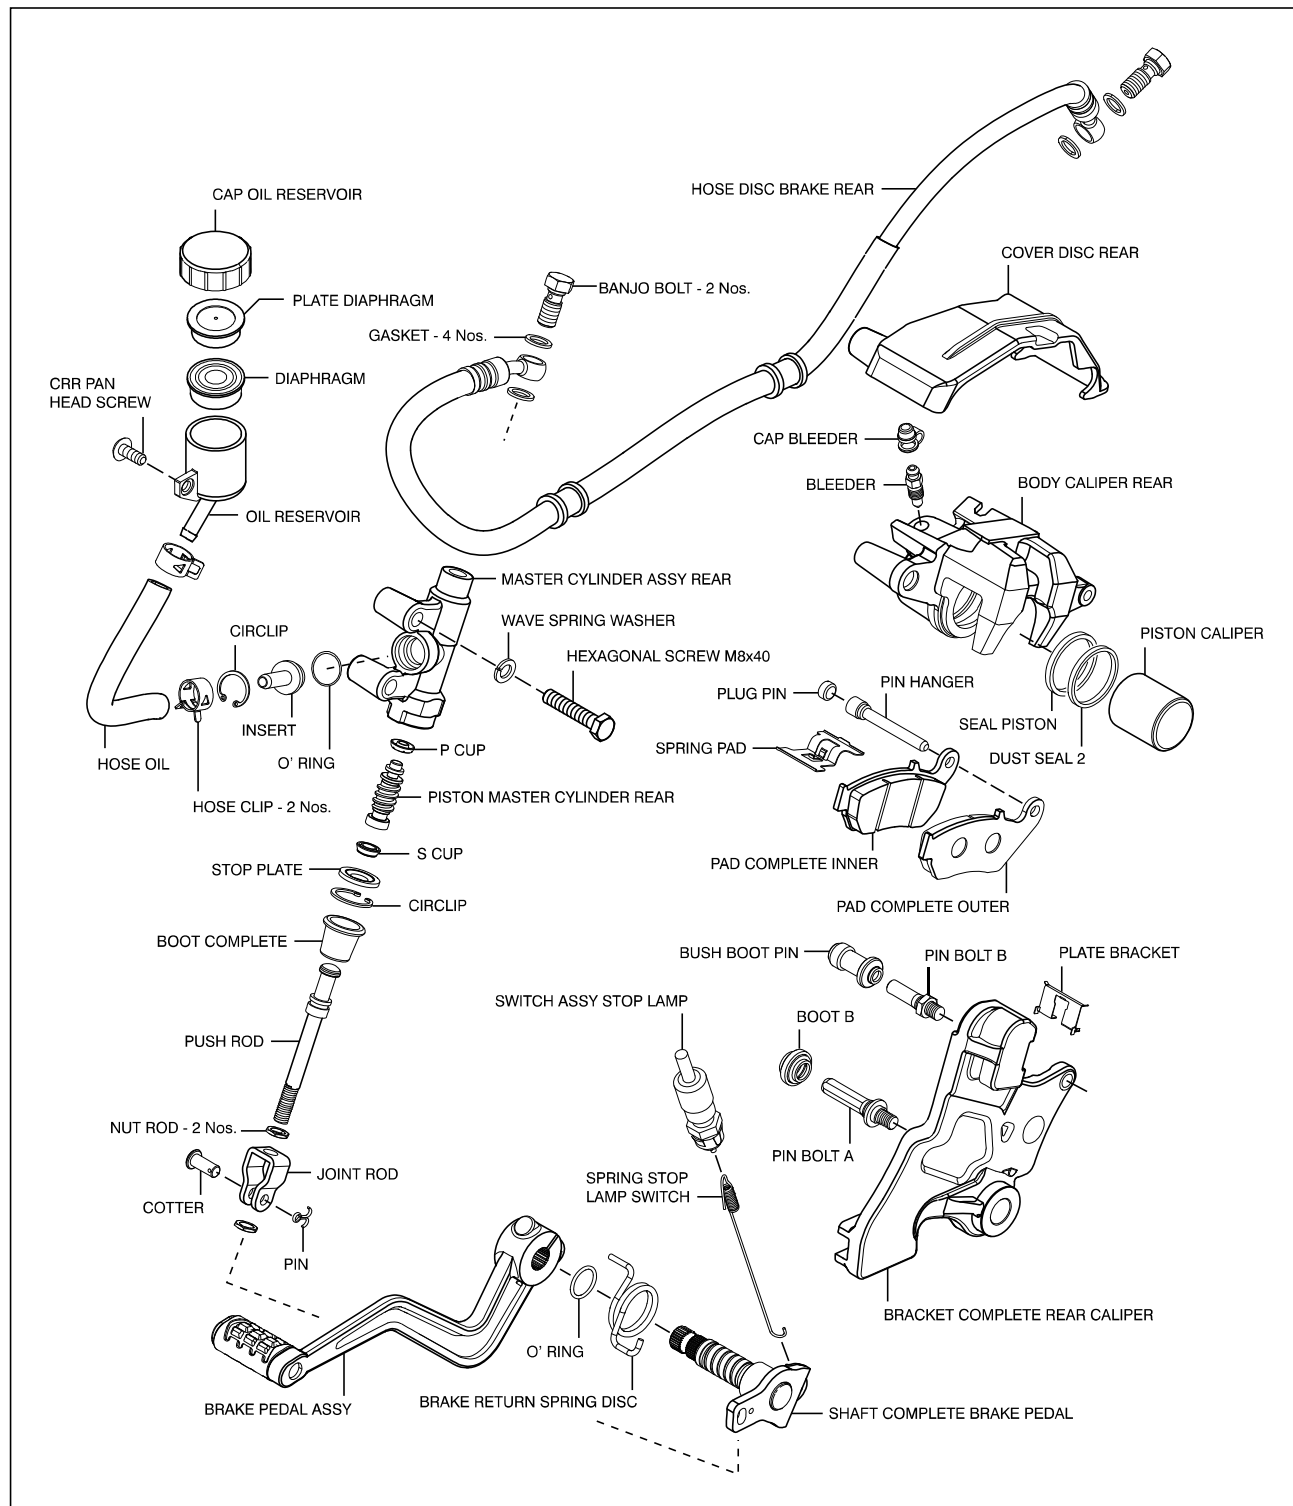

Fig. 6.136
- Reassemble master cylinder in the reverse order of dismantling. Refer exploded view for assembly details. (Fig. 6.136)